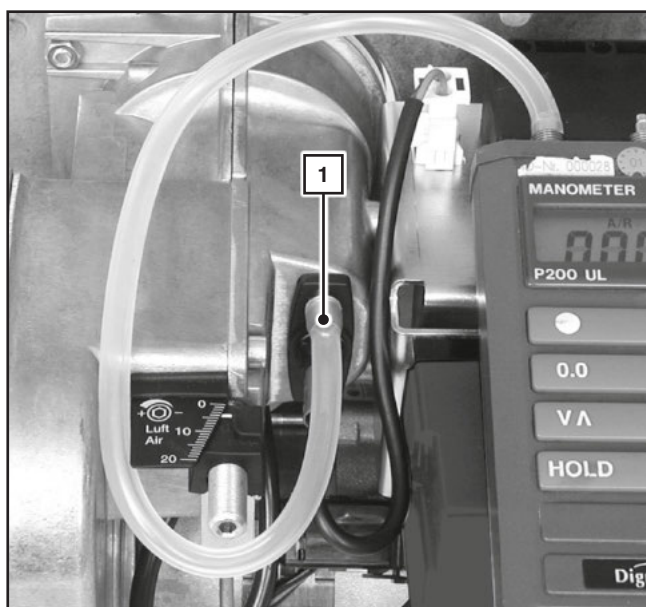

Figure 17
Fan pressure measurement is to be carried out at the pressure measurement fitting (1) (see fig. 17).